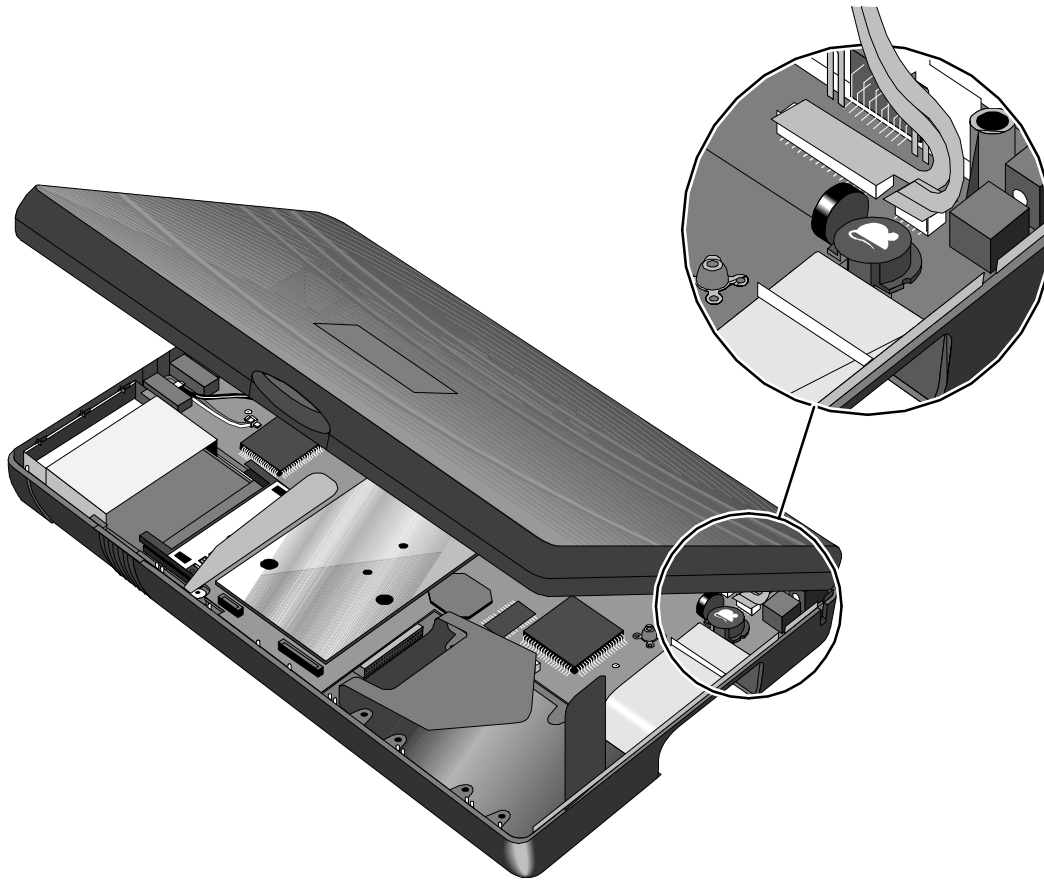

Figure 34 - Display Flex Cables
6. Close the cover and gently pry the Top Case and Display Assembly from the Bottom Case along the case seam. See Figure 34 on page 64 and Figure 35 on page 65. **Take caution of the Display Flex Cable(s) still connected to the Bottom Case, as it is the only component now holding the Top Case and Display Assembly to the Bottom Case; do not lay the Top Case and Display Assembly down at this point.**